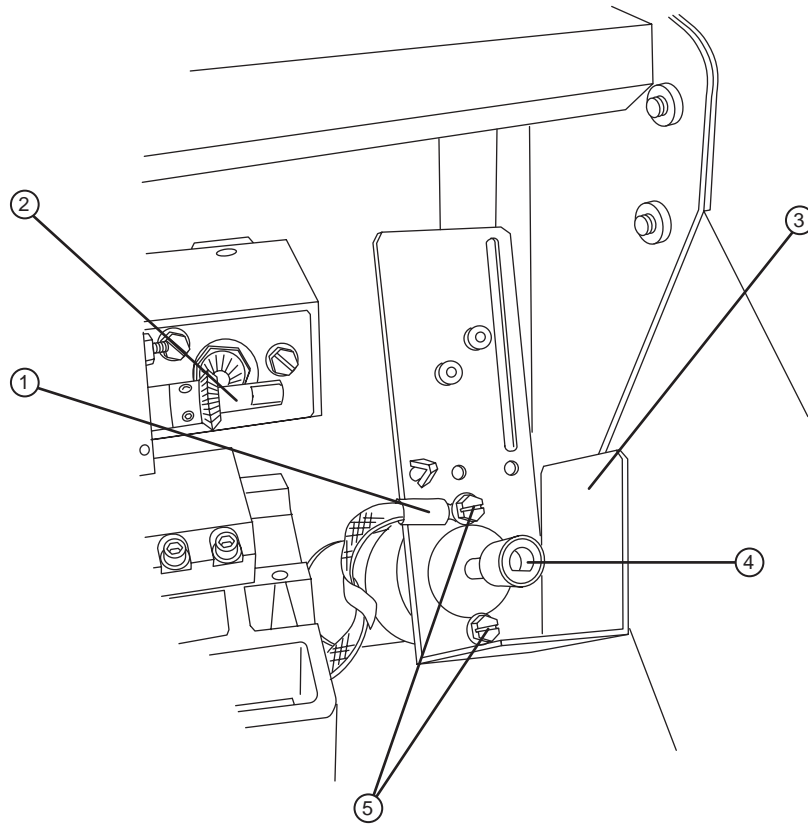

Figure 4-7 Motor mounting screws and coupling.
- ①—Bridge shuttle motor cover. ②—Three allen screws. ③—Tie wraps.
④—Bridge shuttle motor. ⑤—Two power connectors.
- Using a flathead screwdriver, remove the two (2) motor mounting screws. Refer to Figure 4-7.